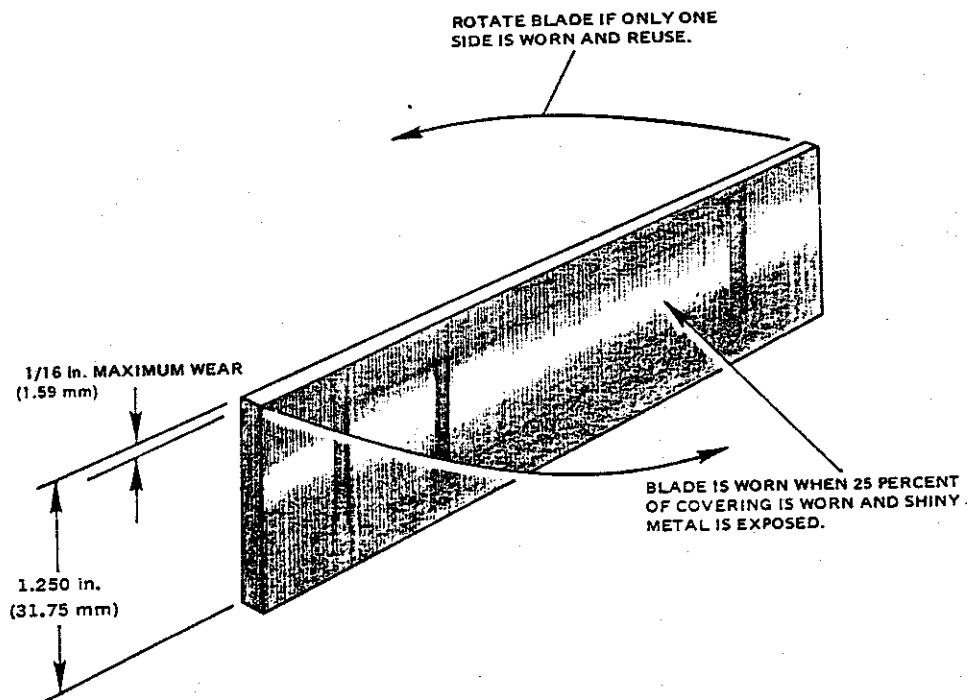

Figure 5-4. Rotor Blade Inspection
3. Examine blades for evidence of excessive wear as shown in figure 5-4. Blades are excessively worn when 25 percent of covering, per side, has been worn off and shiny metal is exposed. Blades worn on one side only can be turned around and reused. Replace blades that have been worn 1/16-inch (1.59mm) in height (figure 5-4). Replace blades worn on both sides, chipped, or damaged in any other way.